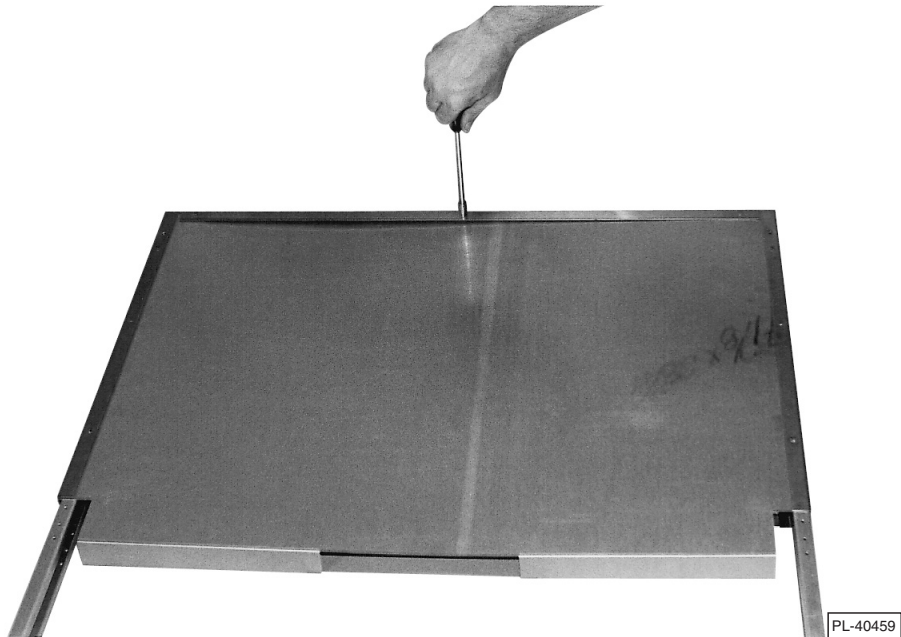

Fig. 1
3. Assemble heat shield to splasher back (Fig. 1). Top edge of heat shield must be placed inside the rear top flange of the splasher back.